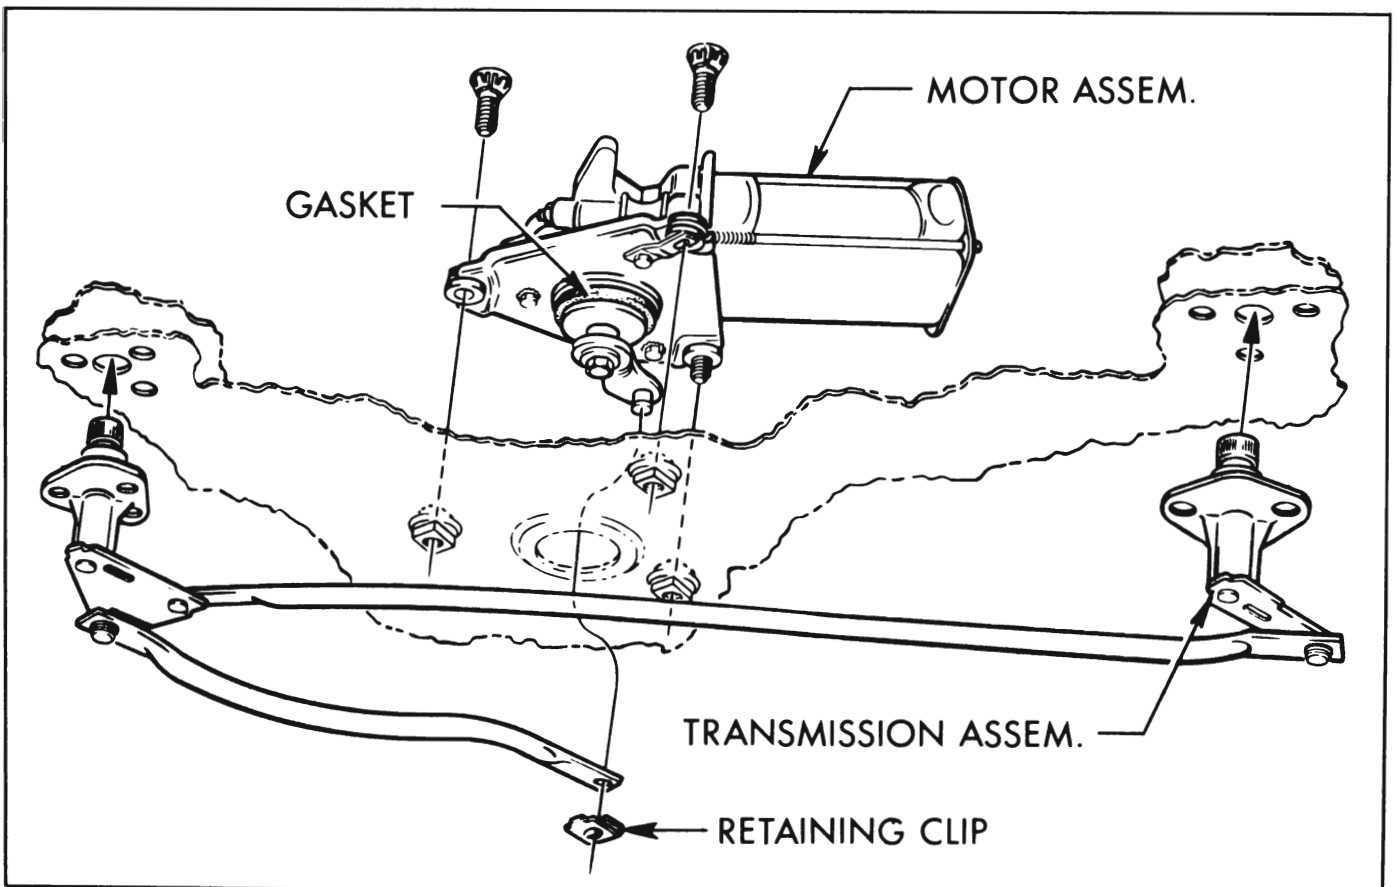

Figure 13-12—Single Speed Wiper Installation
All motors are held to the upper cowl by means of three (3) bolts which fasten through three (3) rubber bushings on the motor mounting plates and then into three (3) weld nuts which are located in the cowl. See Figure 13-12.